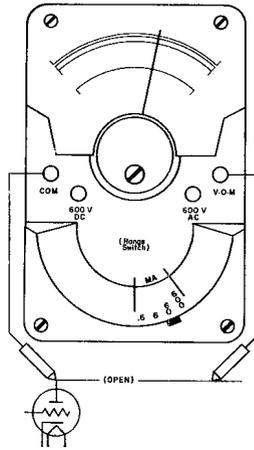

FIGURE 6. DC Current
3.04 The four DC current ranges are 0-.6, 0-6, 0-60, and 0-600 milliamperes. All four ranges are read on the 0-60 DC scale as follows (see Figure 6):